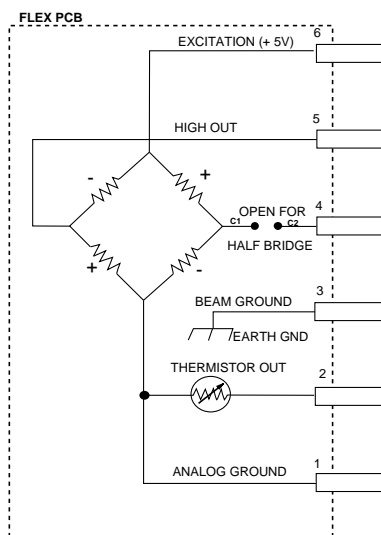
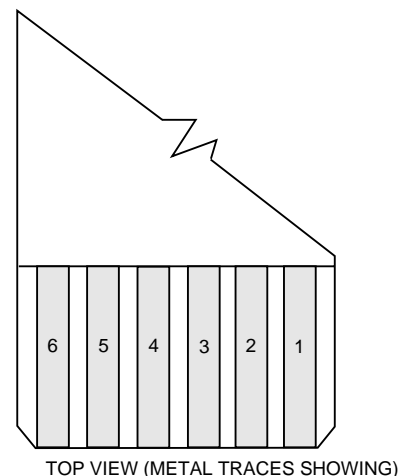

Figure 4-10. Bridge Connections.
Figure 4-11. Transducer Cable Connector.
2. Turn the balance over and loosen evenly the two Allen head captive Machine Screws (C) (until free) which secure the Transducer (8).
3. Turn the balance over again. While facing the Transducer (8) remove the Flexible Cable from the connector on the Printed Circuit Board (4) coming from the Transducer (8). (Before removing the Flexible cable, the top of connector J7 must be lifted.)
4. The Transducer (8) can be checked before replacement for the proper DC resistance. This should measure 263 ohms between adjacent legs of full bridge type transducer or 350 ohms for half bridge types. Figure 4-10 illustrates the bridge and Figure 4-11 illustrates the pin connections on the Transducer cable connector.
5. Ensure that the Up Stop (15) clears the Mounting Plate, then remove the Transducer (8) from the Mounting Plate. (The Mounting Plate is not field serviceable, **do not** try to remove this plate).
6. Install the new Transducer (8) Into position on the Mounting Plate.
7. Hold the Transducer (8) in place and turn the balance over and secure the Transducer (8) with the two captive Screws (C) on the bottom of the balance.
8. Turn the balance over again. While facing the Printed Circuit Board (4), insert the flexible cable from the Transducer (8) into the connector provided for it, on the Printed Circuit Board (4). (Press down on the top edge of connector J7 to secure the Flexible Cable.)
9. Assemble the balance by placing the Cover (2) on top of the Base (1) and securing with the Cover screw (A) and Pan Support (5) using Screw (B).